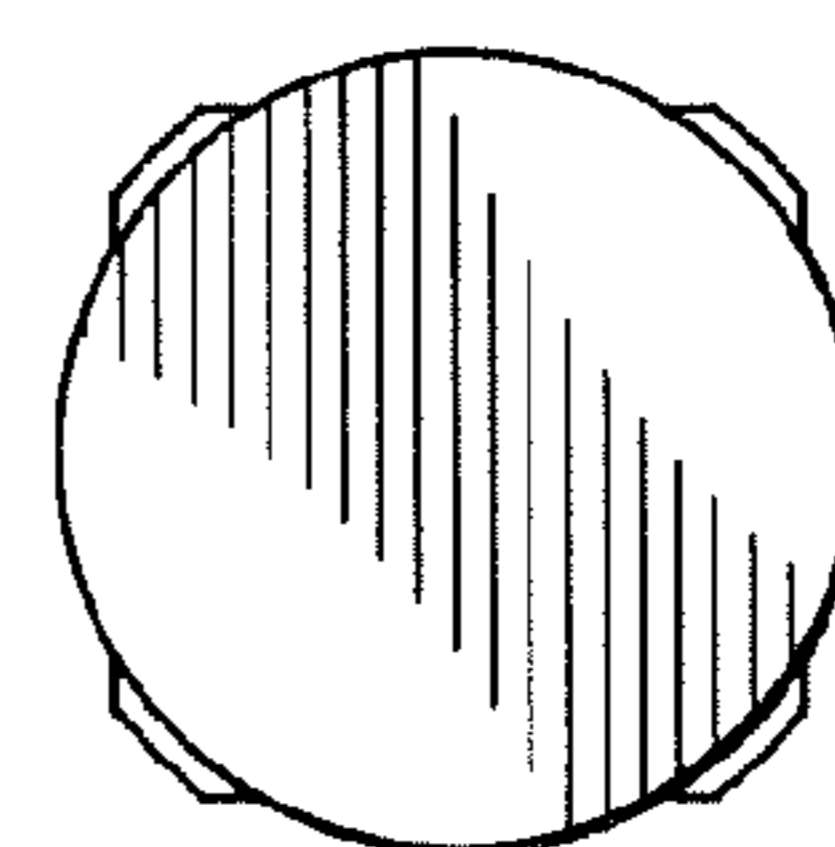

Fig. 6
- FIG. 6 is a bottom plan view of the stud having a diamond-knurled wedge;